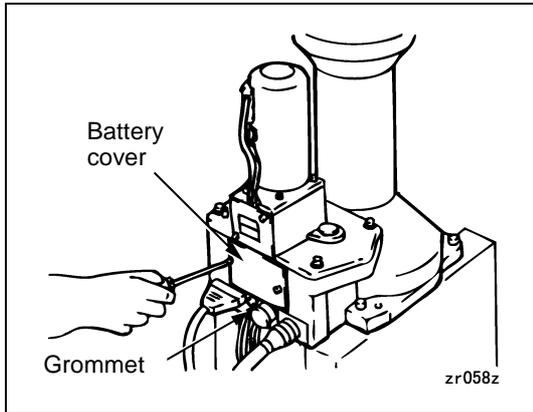

Figure 2-31
- (1) Remove the battery cover and the grommet from the robot unit. (See Figure 2-31.)